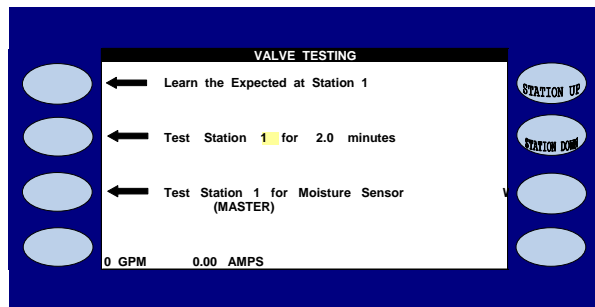

Figure 15
20.  Press the **TEST** Menu key to access the VALVE TESTING screen (Figure 15).